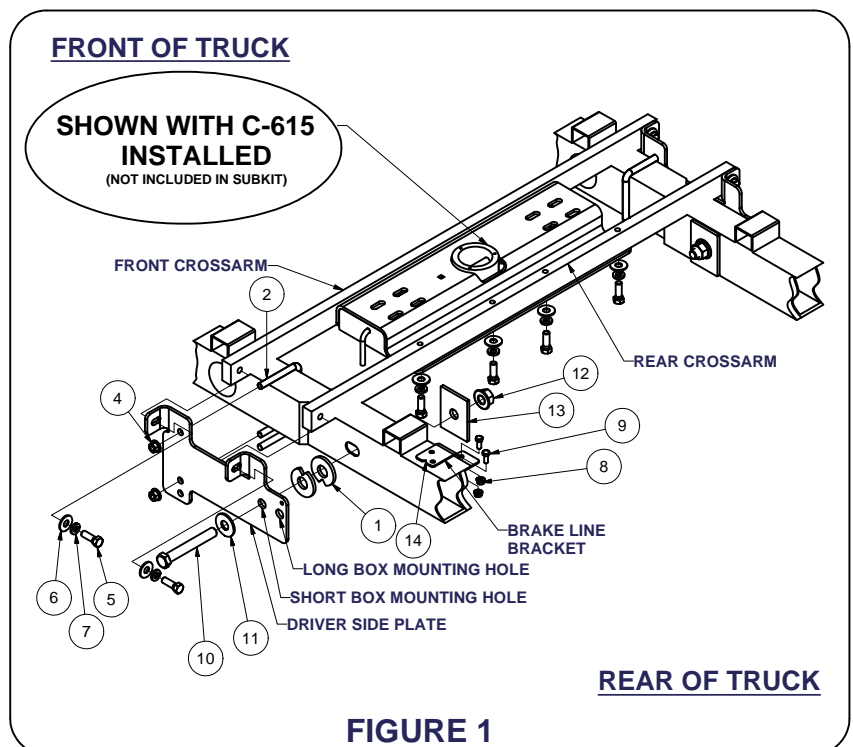

FIGURE 1
- 4) Install the rear cross arm by sliding it between the frame and truck bed floor above the passenger side rear tire. After spanning the frames, rotate the cross arm vertically with the (4) center threaded holes towards the ground. **On short bed applications**, the location of the cross arm should be behind the bed rail support towards the rear of the truck.
- 7) Install the sideplates with the large hole towards the back of the truck aligning them with the existing slot in the frame. Refer to **Figure 1** on page 1 for directions on which mounting plate hole to use. Attach using a 3/4-10 x 5 1/4" hex bolt and 3/4" washer, pushing it through the frame while putting (2) CM-SP13 spacers on the bolt between the frame and the sideplate, then attach the sideplate with a CM-SP58 spacer and a 3/4" flange nut. **Finger tight** both sides. With the sideplates mounted at the slot, attach the flanges to the cross arms using two 1/2" x 1 1/2" hex bolts with 1/2" washers and 1/2" lock washers. Thread them through the inside of the sideplate flanges into the cross arms. **(Finger tight only!)**